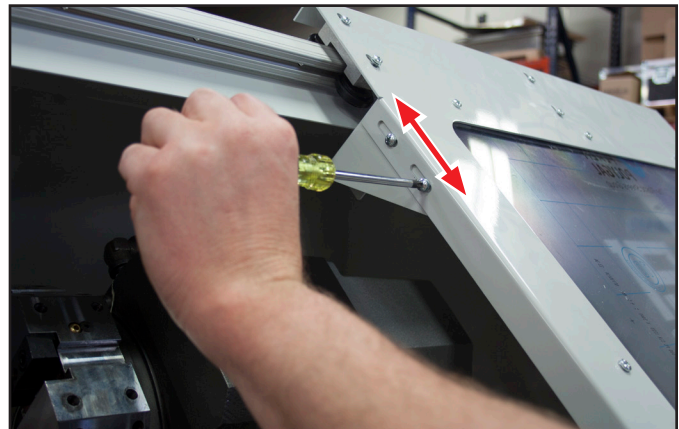

Figure 31
7. Fine tune Limit Switch Trigger Plate height by loosening the screws and adjusting the plate up and down as necessary (see **Figure 31**).